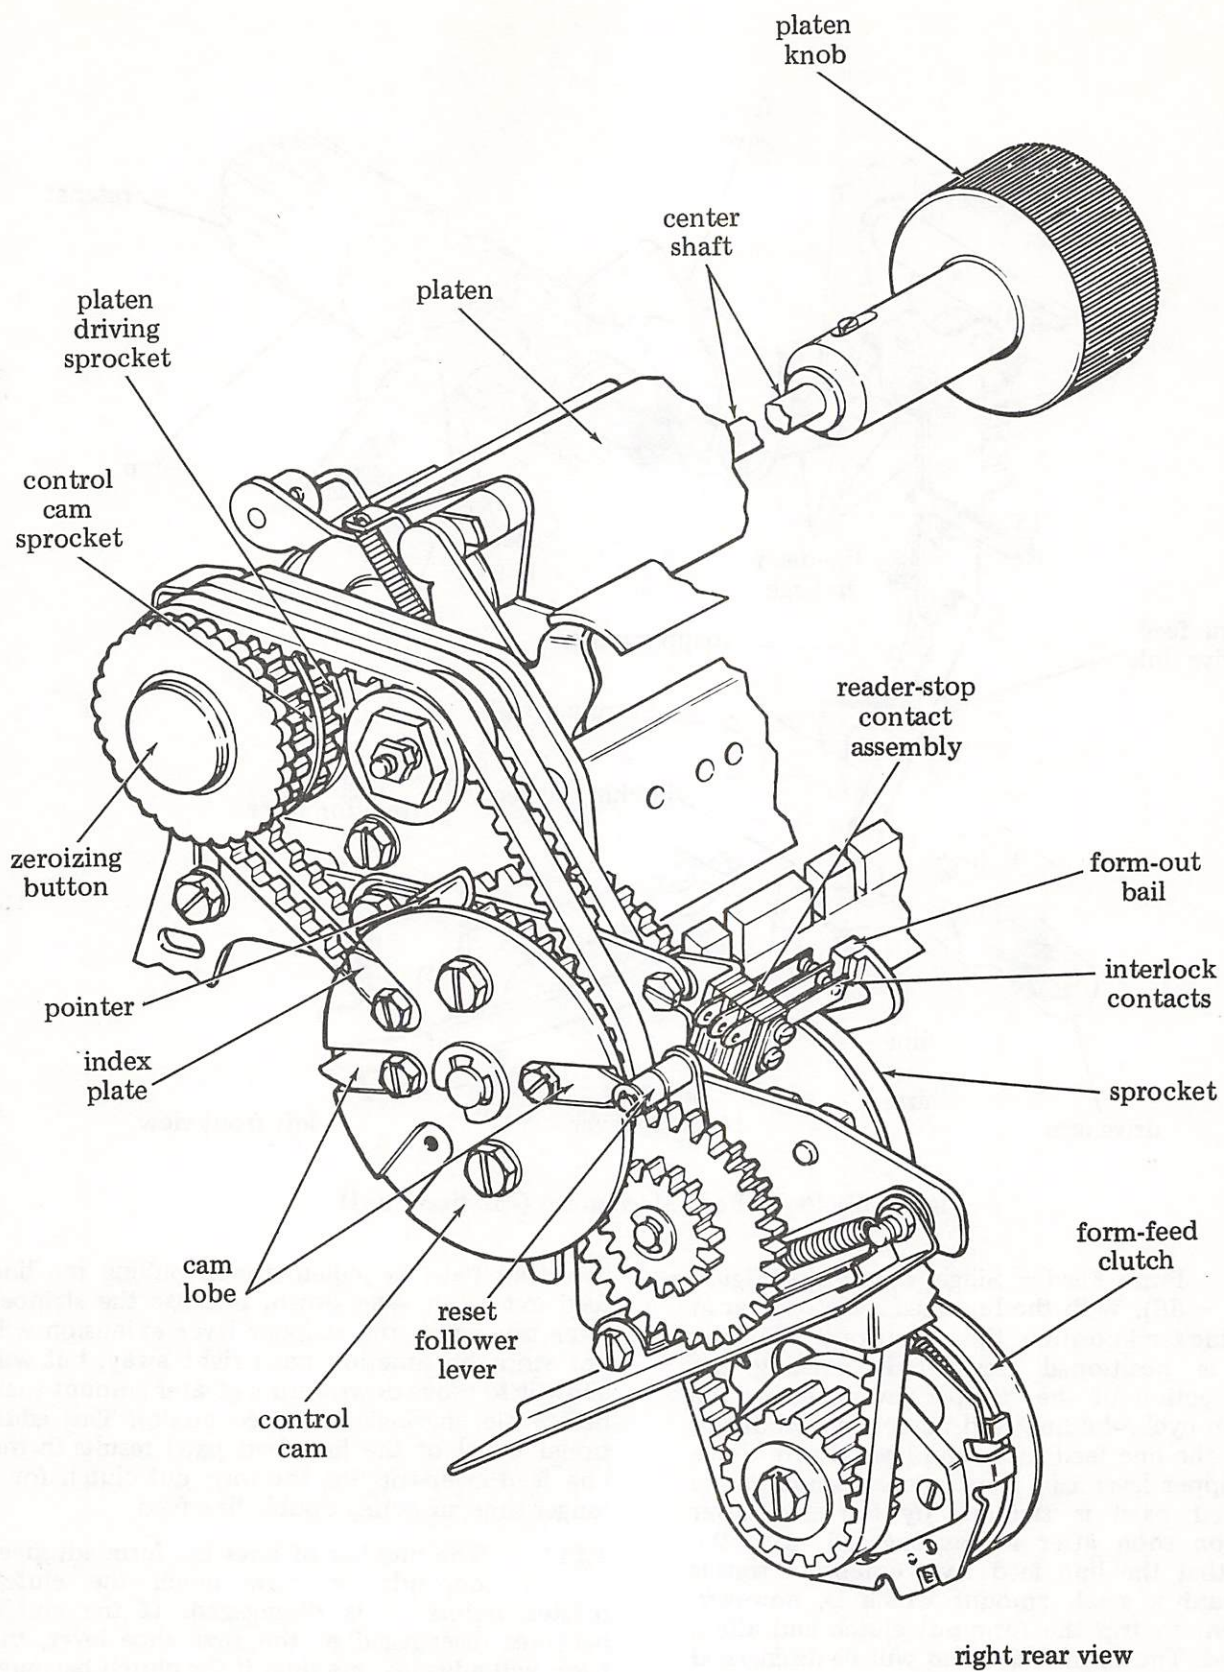
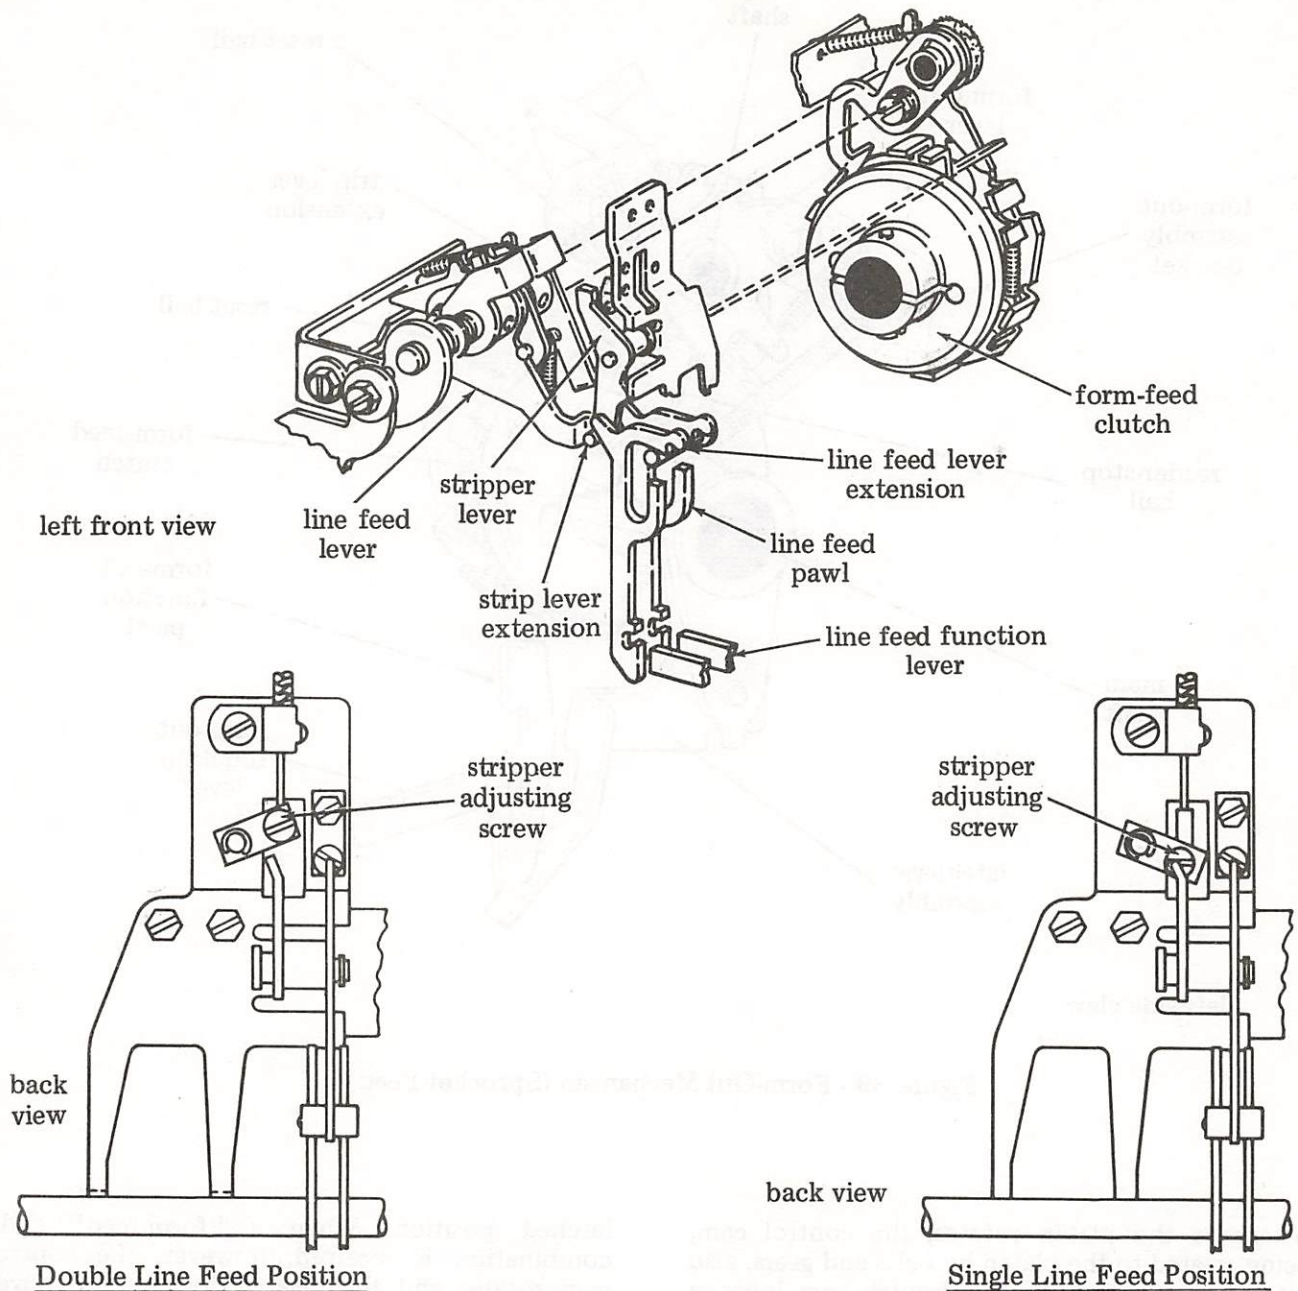

Figure 37 - Platen Drive Mechanism (Sprocket Feed)
Figure 38 - Form-Feed Mechanism (Sprocket Feed)
4.107 The platen drive mechanism (Figure 37) rotates the platen for vertical positioning so that the printed characters are properly located in lines on the forms. The platen drive mechanism is activated through the form-out and form-feed mechanisms (Figures 38 and 39), and controlled by the form-feed clutch. It feeds forms upon receipt of either the "line feed" or "form-out" code combination and may be adjusted for single or double line feed.
4.109 Form Feed — Single Line Feed (Figure 38): With the line feed selector lever in single line feed position, the left stripper adjusting screw is positioned downward blocking the pivotal action of the stripper lever. During the function cycle the line feed pawl is pulled down, pulling the line feed extension lever down. Since the stripper lever can pivot a small amount, the line feed pawl is stripped by the strip lever extension soon after it has engaged, with the result that the line feed lever extension travels downward a small amount which is, however, sufficient to trip the form-out clutch and affect line feed. The form-out clutch will be disengaged again at the next trip point.
4.110 Form Feed — Double Line Feed (Figure 38): With the line feed selector in the double line feed position, the left stripper adjusting screw is moved up. This allows the stripper lever to pivot a greater amount (than for single line feed). During the function cycle the
4.113 When engaged, the clutch drives the platen drive mechanism which consists of belts, gears, and sprockets. The platen drive mechanism is illustrated in Figure 37.
4.120 When an Automatic Send-Receive Teletypewriter Set receives a "form-out" code combination, the form-out bail (Figure 37) is rotated toward the front by the form-out lever extension. This action causes the interlock contacts of the reader stop contact assembly to be operated with the following results:
4.121 The form can be manually advanced any length by pressing the platen knob inward and rotating the knob (Figure 37).